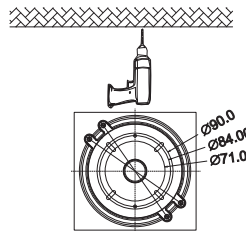

Figure 1-3
3. Drill holes on the ceiling according to the fit plate. Figure 1-3